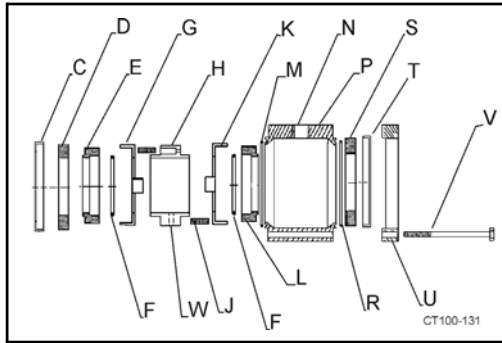

Figure 18 - Type 4 Seal Components
2. Carefully lift off seat retainer, o-ring, L-gasket, stationary seal and flush housing (Figure 18, items P, R, T, S and U).
3. Loosen set screws (2) in spring retainer. (Figure 18, items W and H).
- Rotary Seal (Figure 18, item L)
- O-ring (Figure 18, item F)
- Washer (Figure 18, item K)
- Spring Retainer (Figure 18, item H)
- Springs (6 springs: 3 up, 3 down) (Figure 18, item J)
- Washer (Figure 18, item G)
7. Pull stationary seal and L-gasket out of backplate (Figure 18, items C and D).